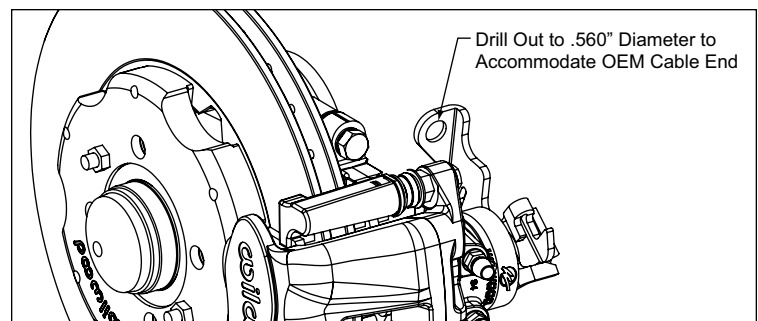
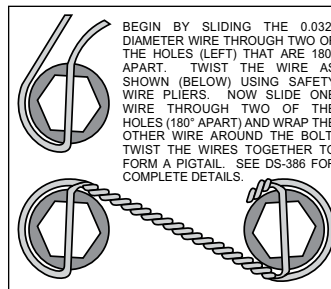

Figure 1. Caliper Cable Bracket Modification
Figure 4. Safety Wire Diagram
The parking brake cable bracket on the new Wilwood calipers needs to be modified to accommodate the original equipment cable end. Drill out the existing hole in the caliper as shown in Figure 1 to .560" diameter.
NOTE: Numbers in parenthesis refer to the parts list and Figure 1 on the preceding pages.
- The caliper mount bracket (1) should initially be installed with clean, dry threads on the mounting bolts. Orient the bracket as shown in Figure 1 and Photo 1, and install using washers (3) and bolts (2). Initially place two .030 thick shims (4) on each bolt between the bracket and upright, Figure 1. Temporarily tighten the mounting bolts. **NOTE:** *The bracket must fit squarely against the mount bosses on the upright.* Inspect for interference from casting irregularities, machining ridges, burrs, etc. Later, after the caliper alignment has been checked, the mount bolts will be secured using red *Loctite*® 271.
- Orient the rotor (6) and the hat (7) as shown in Figure 1 and Photo 2. Attach rotor to hat using bolts (9) and washers (8). Apply red *Loctite*® 271 to the bolt threads and torque to 155 **in-lb** using a criss-cross pattern. For an added measure of security, the bolts may be safety wired using standard 0.032 inch diameter stainless steel safety wire as shown in Figure 4. Please refer to Wilwood's data sheet DS-386 (available at www.wilwood.com/Pdf/DataSheets/ds386.pdf) for complete safety wire installation instructions.
- Slide the rotor registration adapter (5) onto the axle register on the axle hub with the smaller O.D. facing outward, Photo 3. Slide the hat/rotor assembly onto the axle hub. **NOTE:** *The hat must fit flush against the axle hub flange or excessive rotor run out may result.* Install three lug nuts (finger tight) to keep the hat/rotor assembly in place while continuing with the installation.
- Install the brake pads (15) into the caliper (10) from the bottom with the friction material facing the rotor until the "v" spring clip snaps into place against the anvil, as shown in Figure 1 and Photo 4. They should install easily without interference.
- Initially place two .035" thick shims (14) on each stud (13) as shown in Figure 1 and Photo 5. Mount the caliper (10) onto the bracket (1) using lock nuts (11) and washers (12), Figure 1 and Photo 6. Temporarily tighten the lock nuts and view the rotor from the end of the caliper. The rotor should be centered in the caliper, Photo 7. If not, adjust by adding or subtracting shims (4) between the bracket and the upright. Always use the same amount of shims on each of the two mounting bolts. Once the caliper alignment is correct, remove the bracket mounting bolts (2) one at a time, apply red *Loctite*® 271 to the threads, and torque to 30 ft-lb.